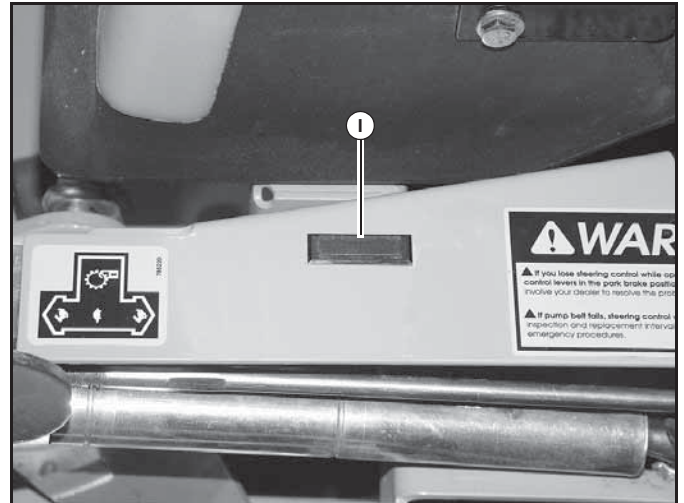

Figure 3-2
- I. Engine malfunction light (Figure 3-2)** — this light comes on when there has been an engine malfunction on mowers with Kohler EFI engines. Refer to Kohler engine owner’s manual for more details.